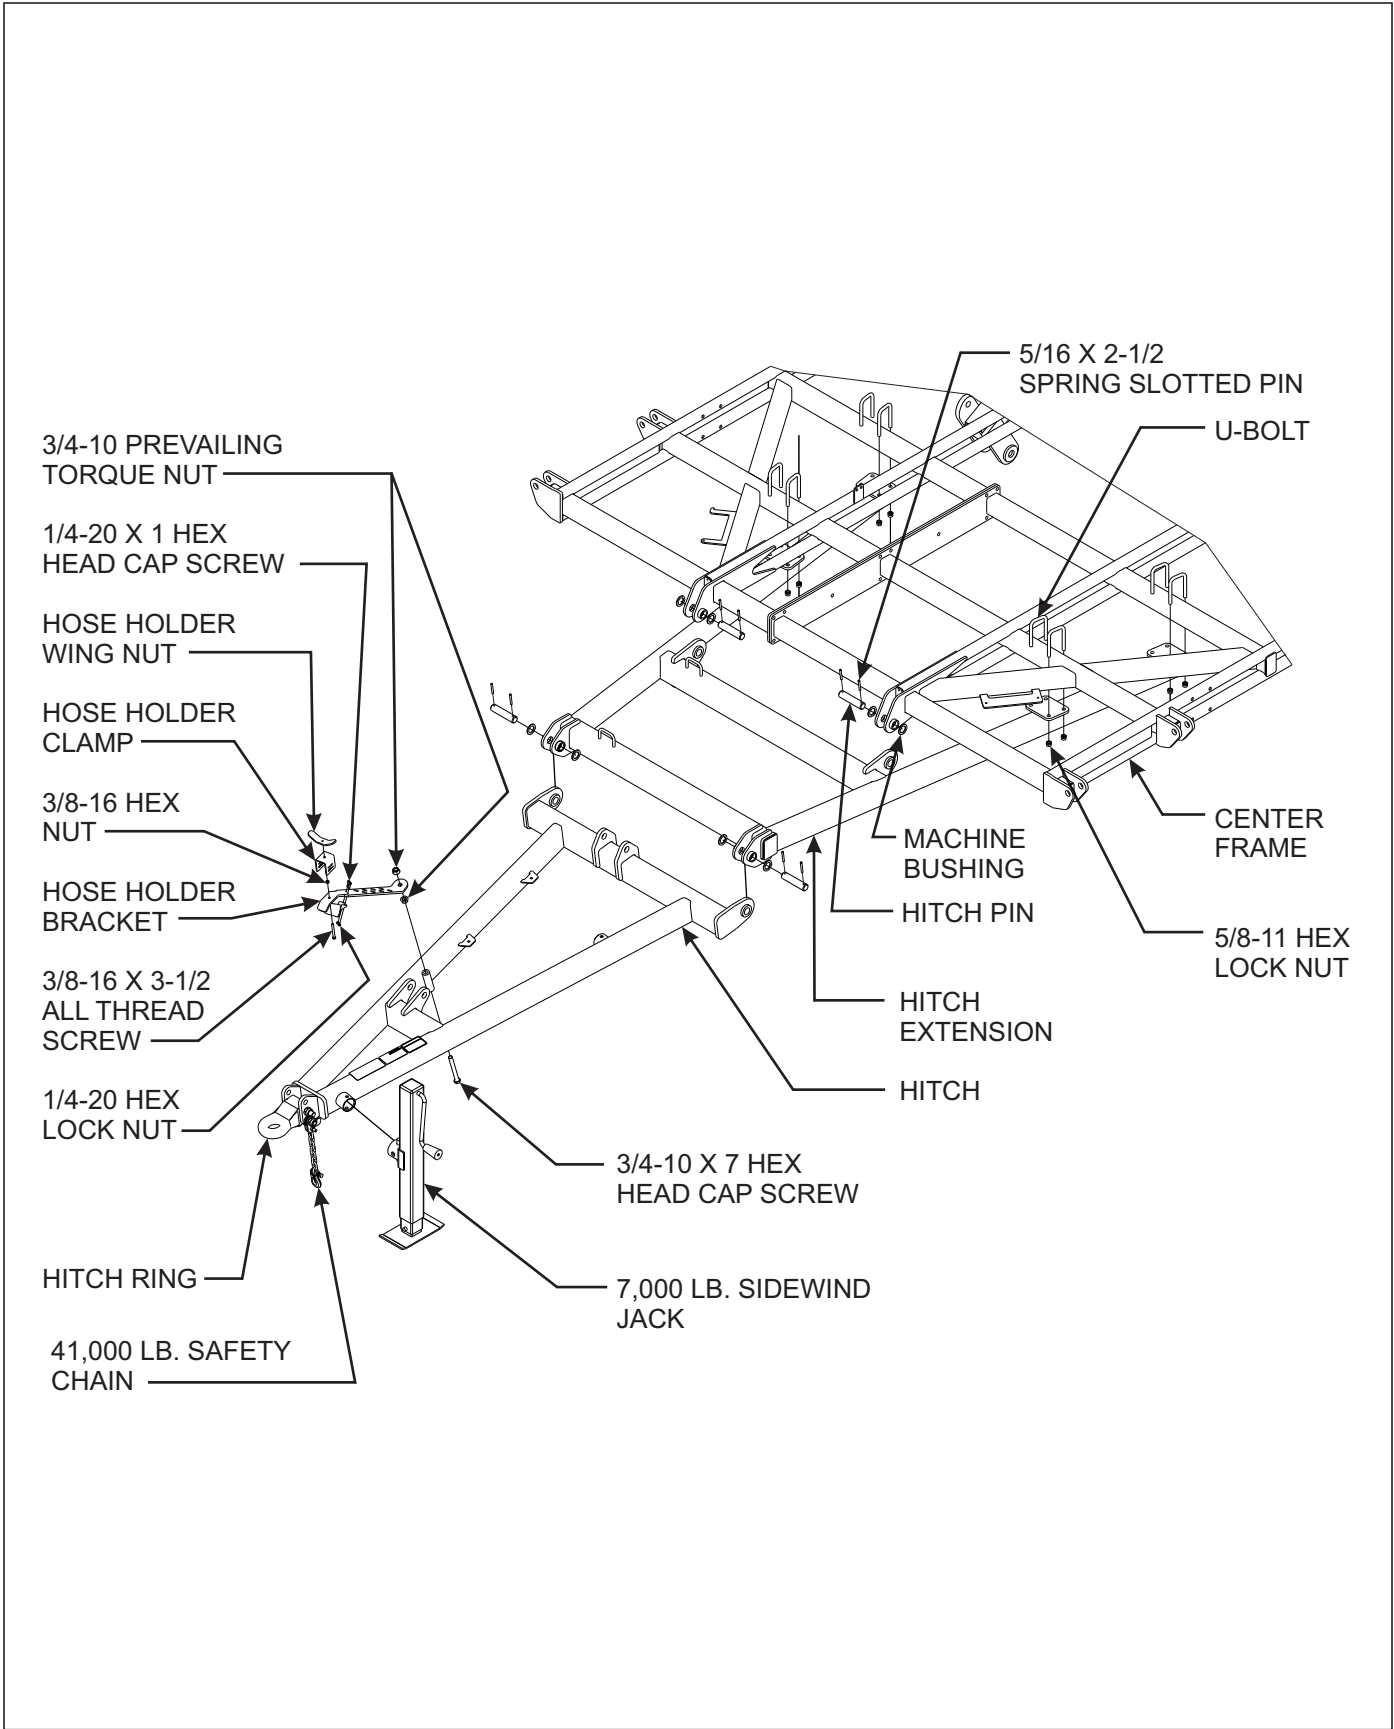

Figure 3-2: Frame and Hitch Assembly
1. Slide hitch extension under center frame and attach hitch extension to the center frame ears on the front of the center frame using hitch pin, machine bushings, and 5/16 x 2-1/2 slotted spring pin See Figure 3-2.